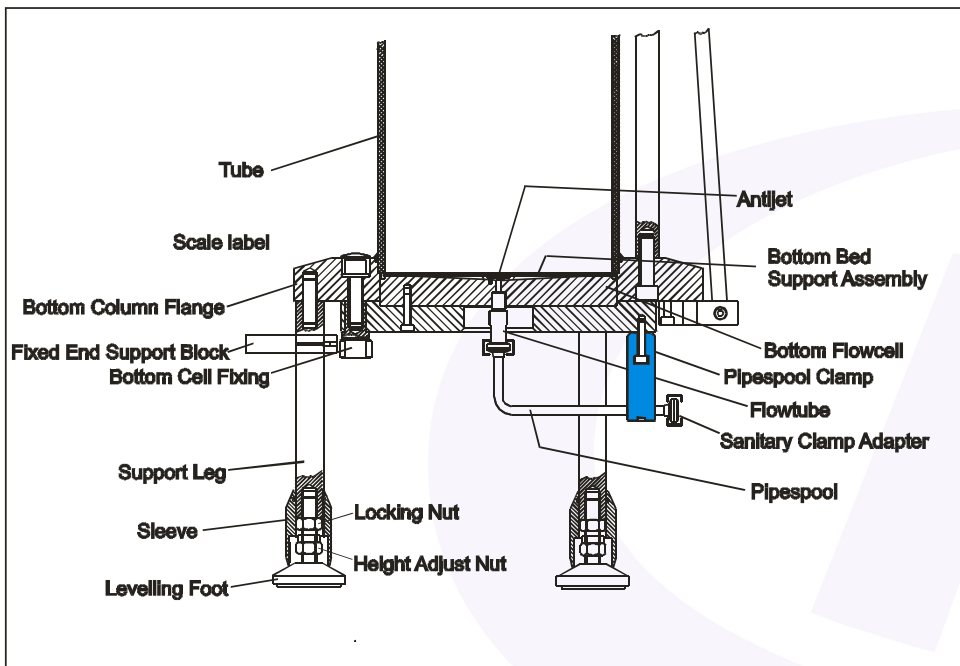

Figure 14: Fixed Assembly Evolve® 250 Process Column
1. Identify the components on the schematic shown in Figure 14.